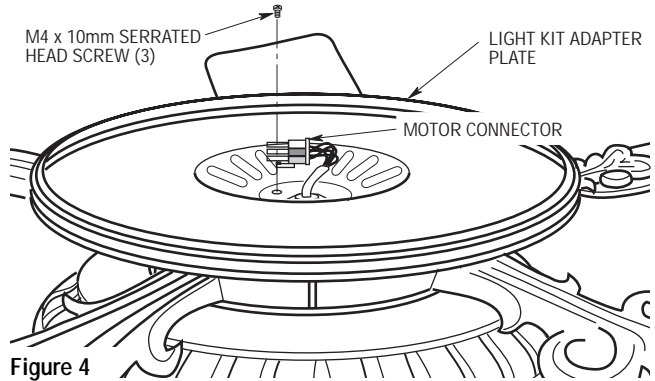

Figure 4
- 6. Slide fan motor connector through the center hole of the light kit adapter plate. Assemble the light kit adapter plate to the motor plate by using three M4 x 10mm stainless steel serrated head screws (supplied) (Figure 4).